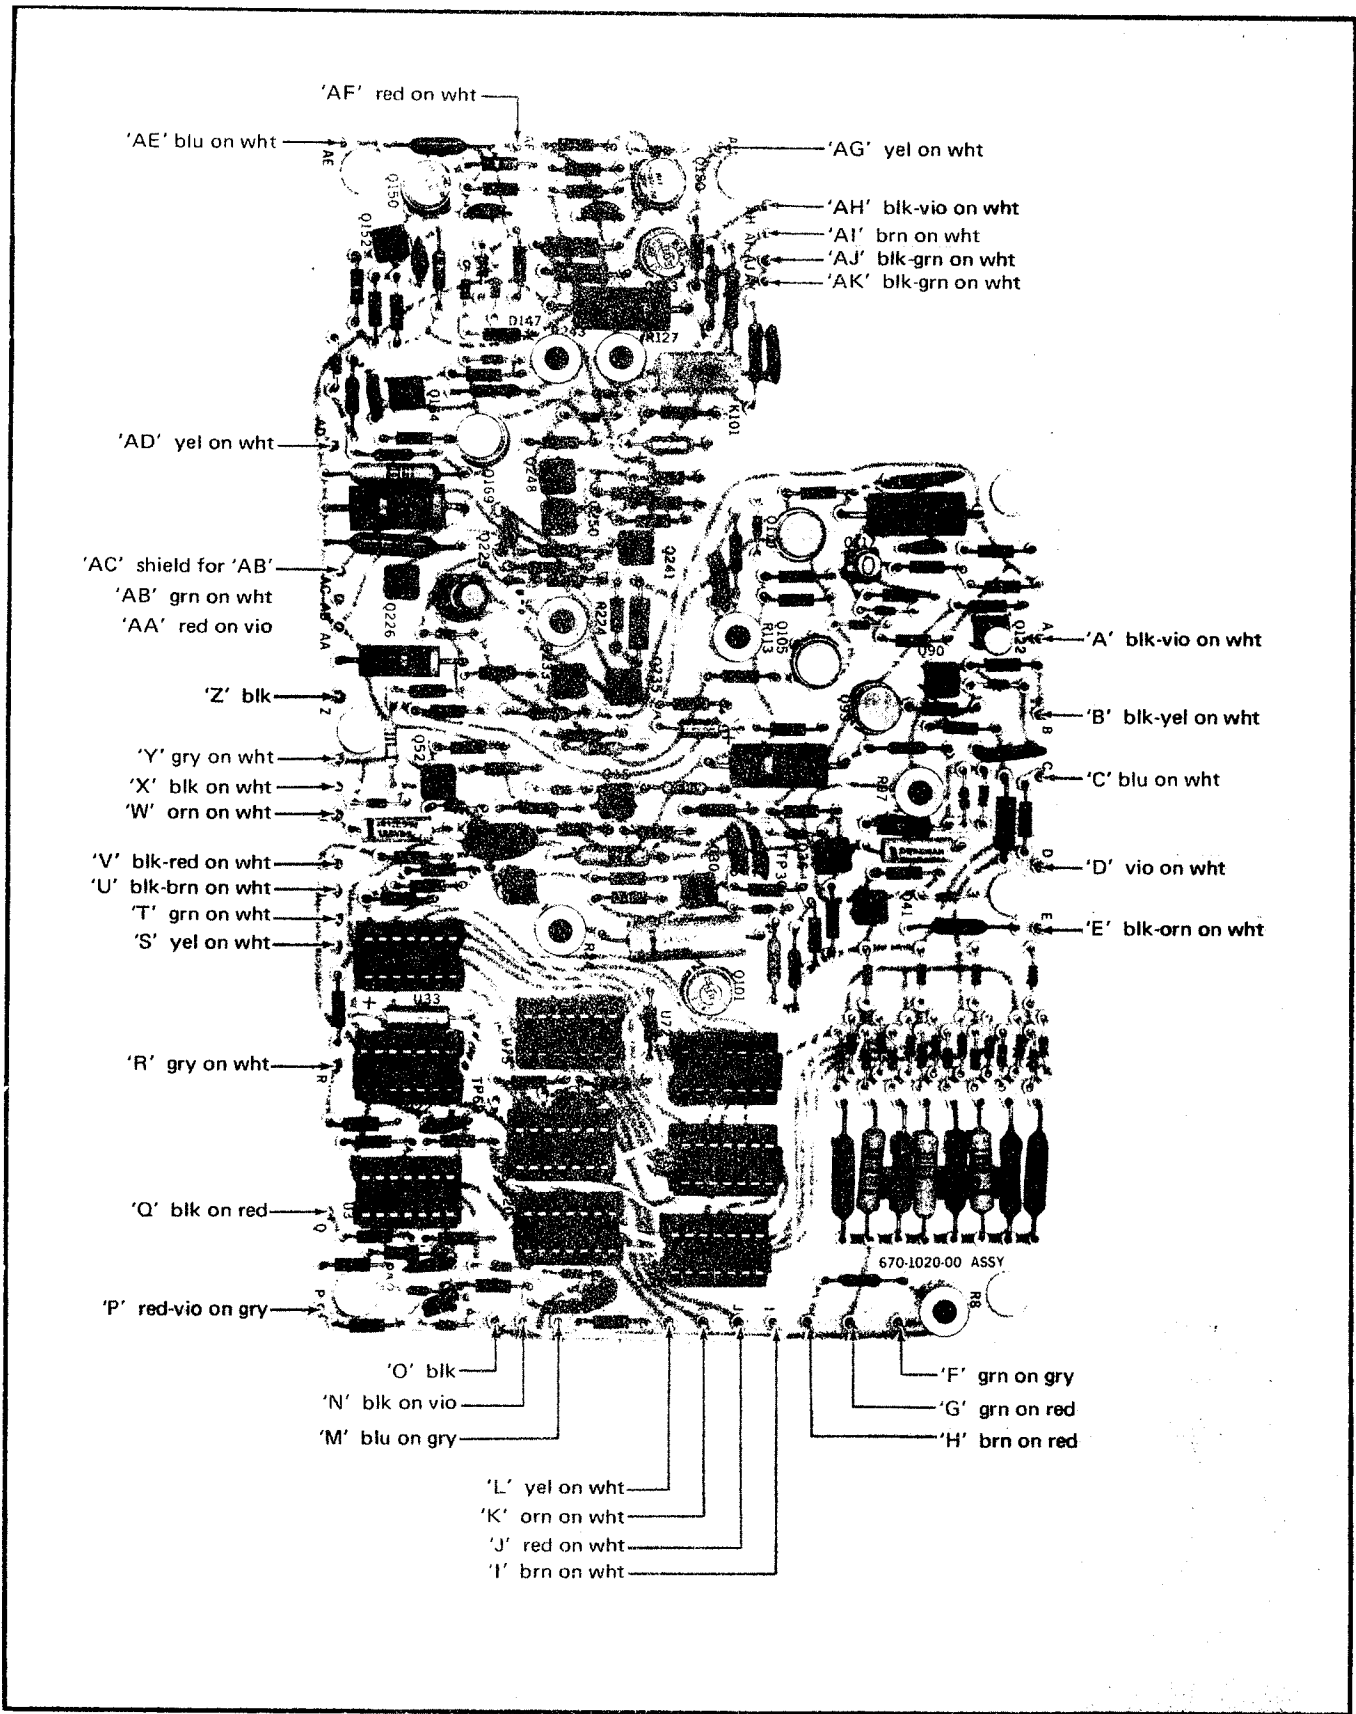

Fig. 3. Step Generator circuit board wiring.
- ( ) 41. Connect the wires to the Step Generator circuit board as shown in Fig. 3.